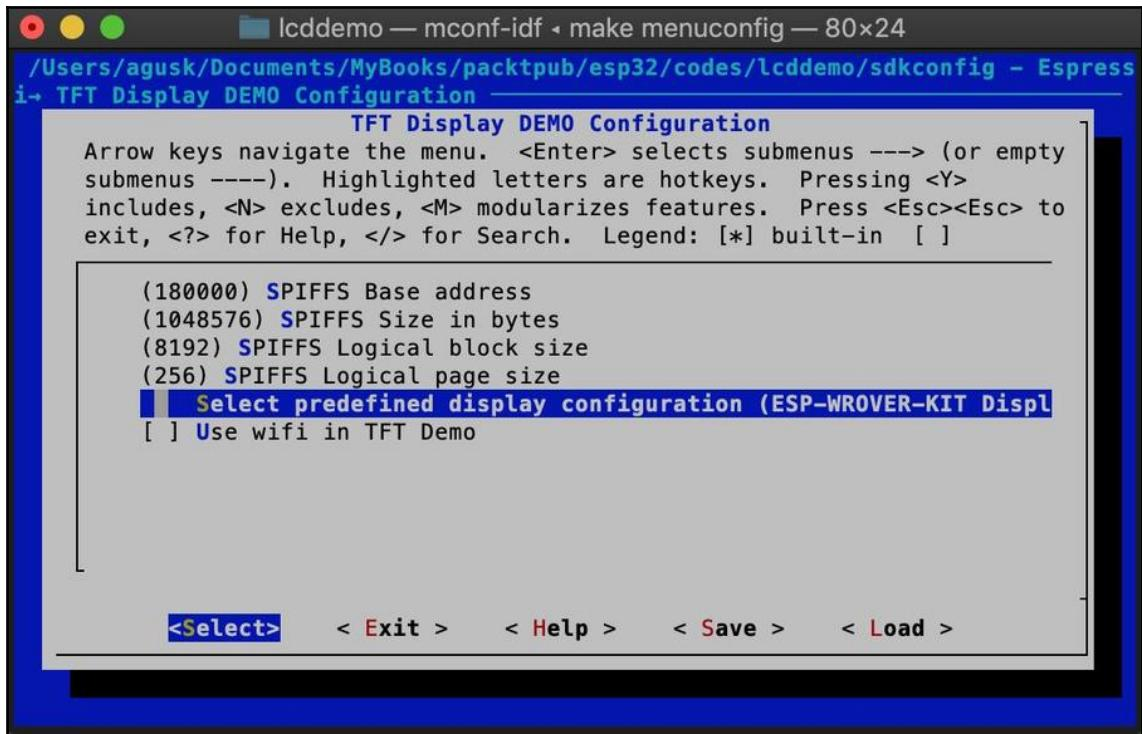

Figure 2-10: Selecting the predefined display configuration
4. You will get a form as shown in Figure 2-10. You can select Select predefined display configuration: